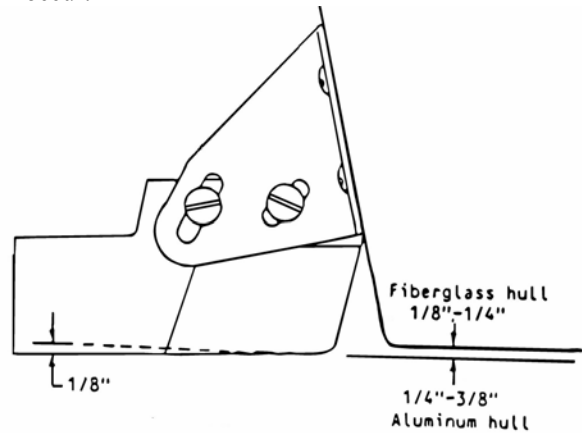

Figure 2
against the transom. See Figure 2. The least amount that the transducer extends below the bottom is desirable. If too low, spray and turbulence will occur.
6. Before final tightening the 4 screws holding the brackets to the transducer, tip the rear edge down approximately 1/8" as shown in Figure 2.